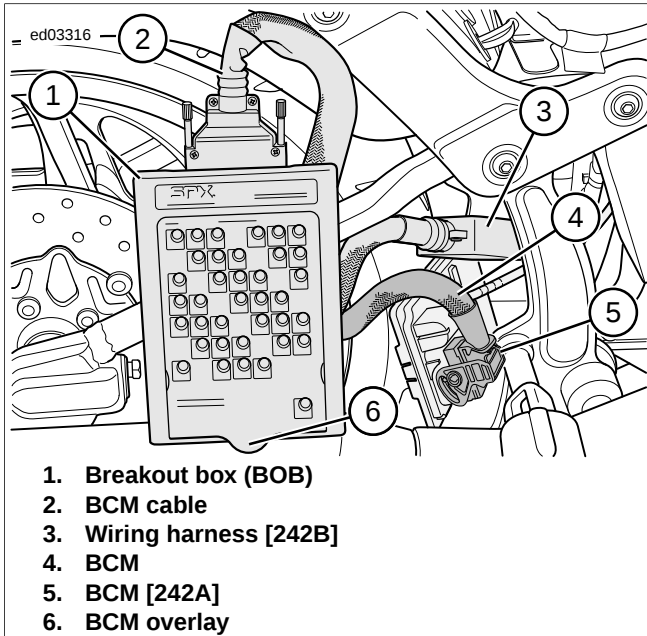

Figure 1-40. BCM Breakout Box Connection: Except FXSB
3. See Figure 1-40. Connect BREAKOUT BOX (Part No. HD-50390-1) and BCM CABLE (Part No. HD-50390-2) to connectors.